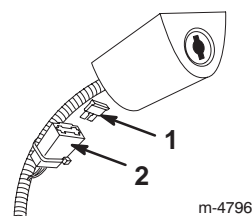

Figure 33
2. Install the new fuse as shown in Figure 33.